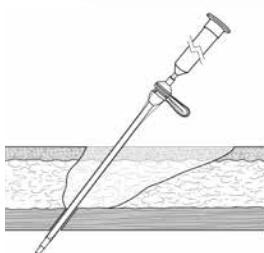

Figure 7
2. Insert Y-TEC Peritoneoscope (scope) into cannula and lock together (Figure 7).